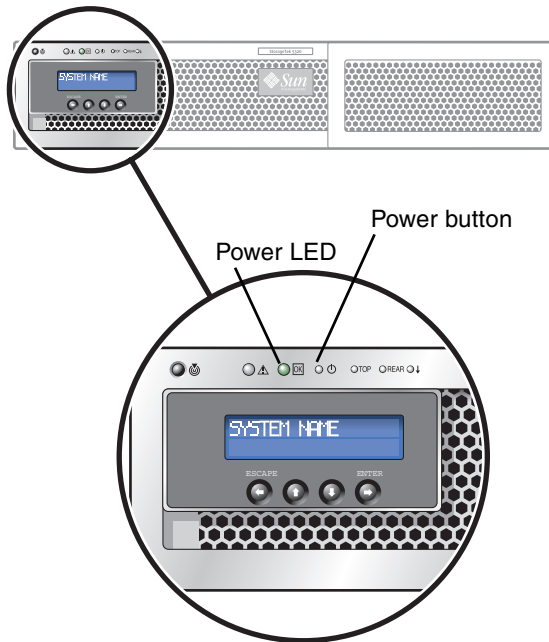

FIGURE 4-10 Power Button and Front Panel Detail
8. Power on the server H1 (software serial number ending in “-H1”) by using a pen tip or similar implement to press the recessed Power button (FIGURE 4-10).